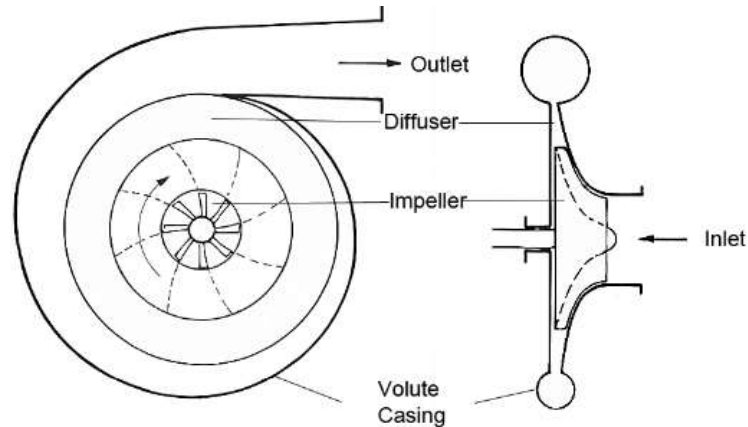

Fig.4.9 Centrifugal Compressors
- ▶ The schematic of centrifugal is shown in *Fig.4.9*. This type of multi-stage application is often used in the oil and gas and process industries.